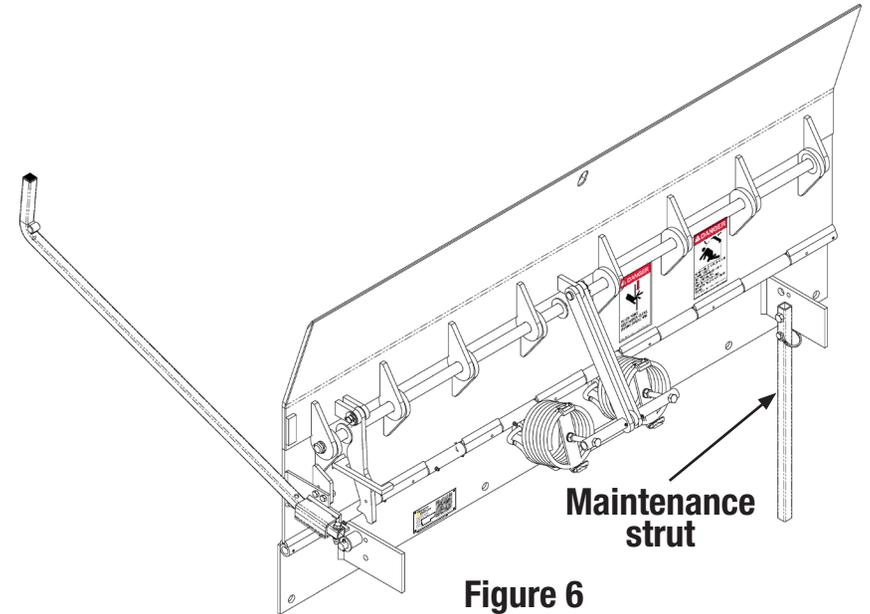

Figure 6
- Install maintenance strut using supplied hardware. See **Figure 6** and **Figure 10**.